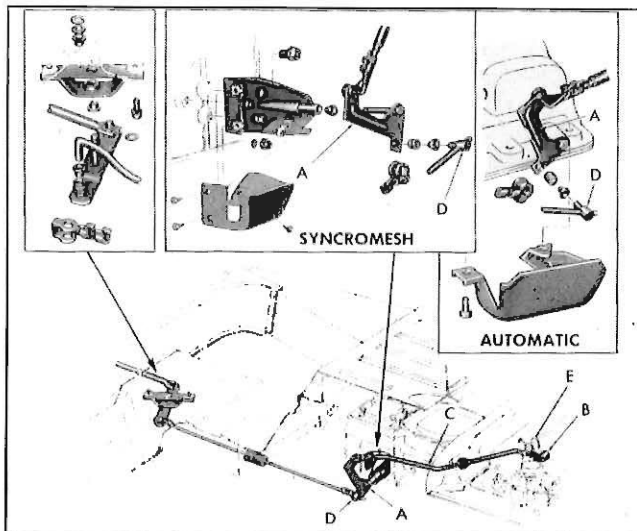

Fig. 11—Accelerator Linkage
2. Disconnect swivel "D" from lever "A" (fig. 11).
3. Disconnect swivel "B" from the left carburetor cross shaft lever "E" (fig. 11).